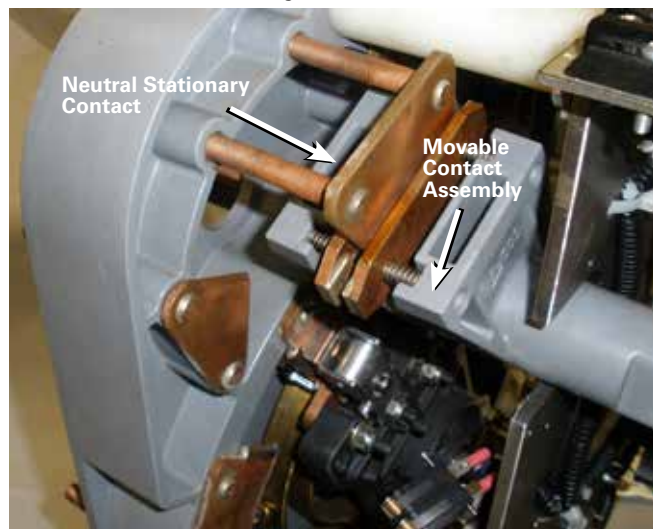

Figure 15. Engaging contacts.
15. Continue to reposition the screwdriver, separate the button contacts and rotate the reversing movable contact assembly until the middle button contact is fully engaged in the center of the reversing stationary contact blade. See Figure 15.